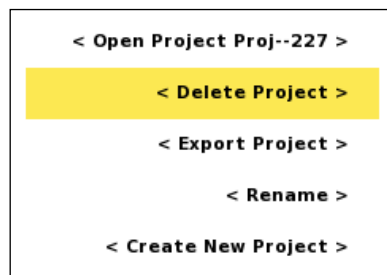

Figure 105 Project options menu
- Highlight <Delete Project> (Figure 105)